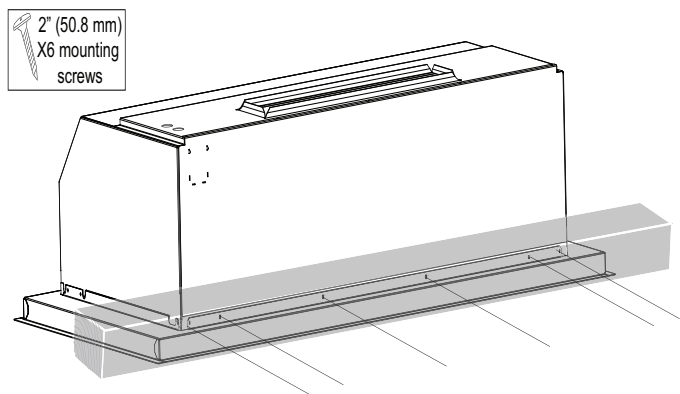

Figure 37: VCIB Rear Screws
- Secure to the rear of the frame using six (6) 2" (50.8 mm) mounting screws provided (*Figure 37*).